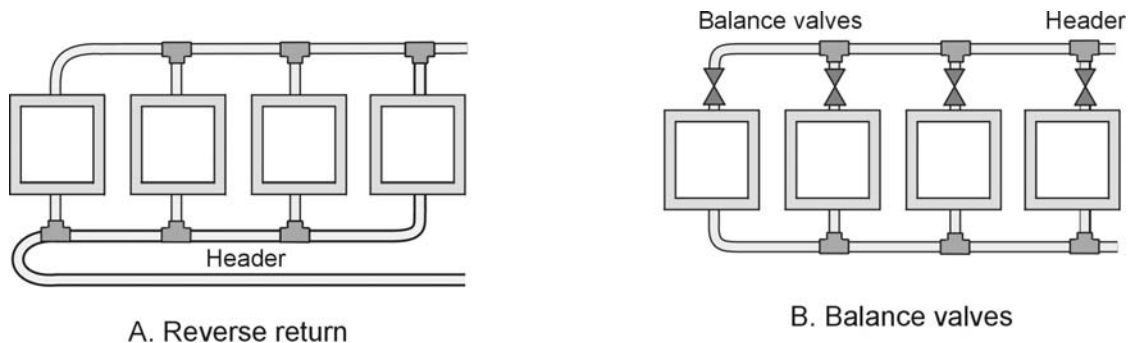

Figure 25 Multiple collector piping arrangements
The collectors in multiple-collector arrays should be plumbed in parallel unless the manufacturer specifies otherwise. Parallel, reverse-return piping (Figure 25) ensures a fairly uniform flow in a collector array with no more than four collectors. Use 3/4-inch (ID) pipe for the interconnections. A parallel connection without reverse return leads to uneven flow throughout the collector array.
If the array cannot be piped in parallel with reverse return, use flow-balancing valves to reduce the flow in the collector of least resistance, equalizing the flow rate through the entire array (Figure 25 b). A balancing valve is a fairly expensive valve with which accurate flow adjustment may be made. Gate valves should not be used for this purpose, as they will not allow accurate flow equalization over time, but ball valves have been used successfully for balancing.